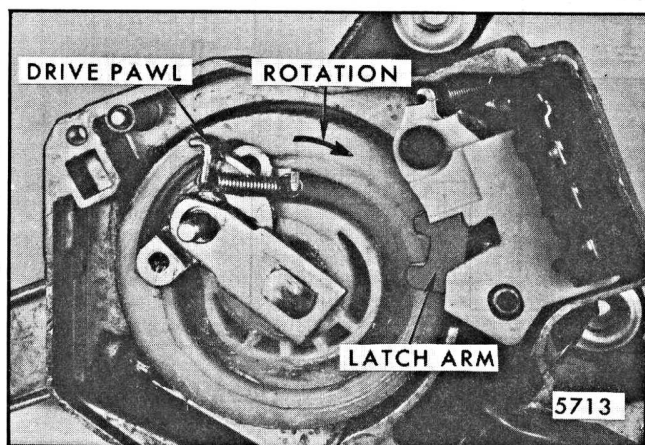

Fig. 2-74-Gear in Normal Run Position
1. The gearbox relay coil circuit is opened allowing the spring-loaded relay latch arm to move out into the path of the gear mechanism (Fig. 2-74). However, the gearbox relay switch contacts are still closed and therefore the B plus circuit to the pulse relay is still maintained.